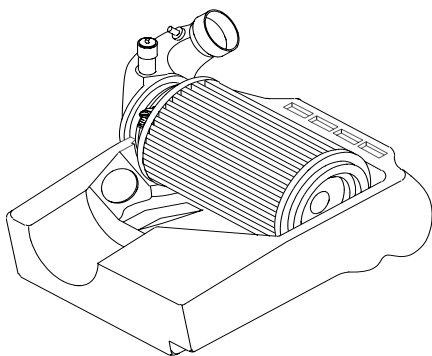

Fig. 3
5. After the intake tube is properly seated into its receptacle, push the closed end of the AEM® air filter down into the airbox until it is positioned properly. (Fig. 3)